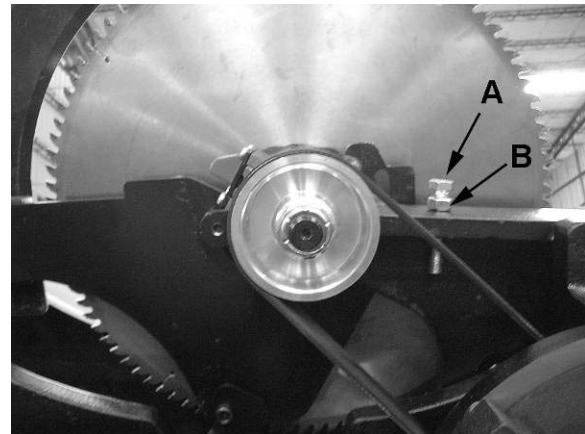

Figure 11
2. Open the side cover and locate the blade depth stop screw (A, Figure 11) located between the arbor pulley and motor.
3. Using a 14mm open wrench, loosen the hex nut (B, Figure 11). This will allow the hex cap screw to loosen and the saw blade to be adjusted lower.
6. The blade depth stop screw (A, Figure 11) should be resting against the trunnion. Verify that this is the case; then tighten the hex nut (B, Figure 11).